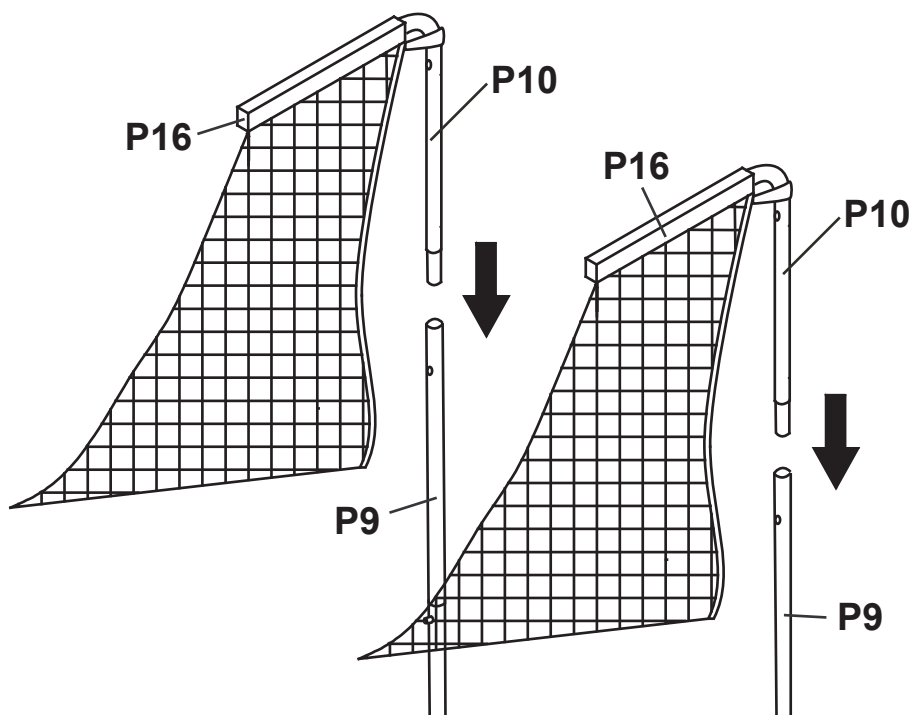

Figure 9
- 11.** Insert Top Tubes **P10** into Back Tubes **P9** as shown in **Figure 9**.